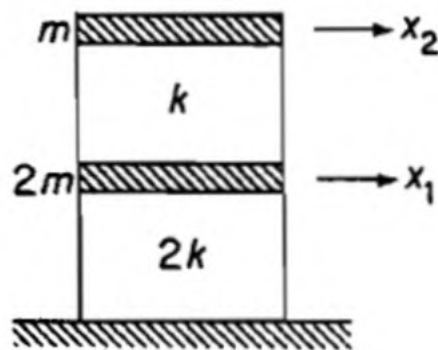

Fig.5.
7. a. What is a shear building? List the assumptions made in the lumped mass idealization of shear buildings? (4)
- b. For the two storey shear building with floor mass and storey shears as shown in Fig.5. set up the equation of motion and hence determine its natural frequencies and vibration modes (10)